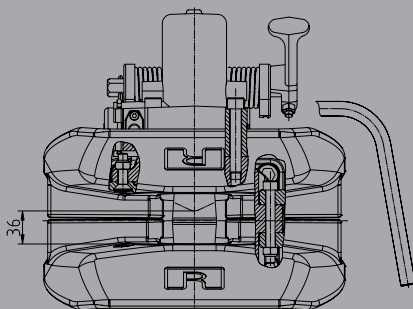

Fig. 9
- Engaging point for drawbar eye must be **36 mm** (see Fig. 9).